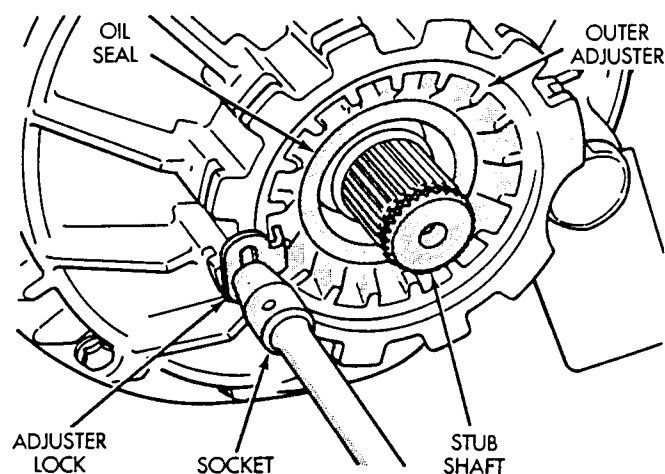

Fig. 5 Outer Adjuster Lock Removal
(4) Remove Outer adjuster lock (Fig. 5)
(5) Using special tool 6503 loosen outer adjuster, then retighten to the index mark using a torque wrench. Record the amount of torque required to return the index marks to their original location. Remove the adjuster.